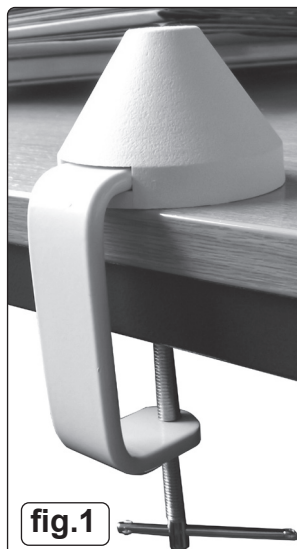

fig.1
- 4.1.1. Fix the clamp to a secure surface. See fig.1.